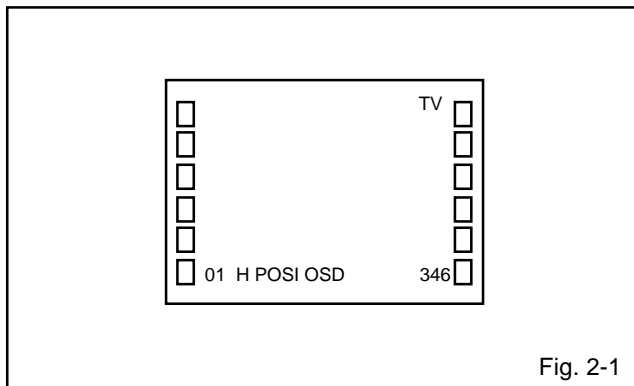

Fig. 2-1
1. Put Masking Tape (cotton tape) around the Flat Package IC to protect other parts from any damage. (Refer to Fig. 2-1.)
2. Press the VOL. DOWN button on the set and the channel button (**9**) on the remote control for more than 2 seconds to display adjustment mode on the screen as shown in **Fig. 2-1**.